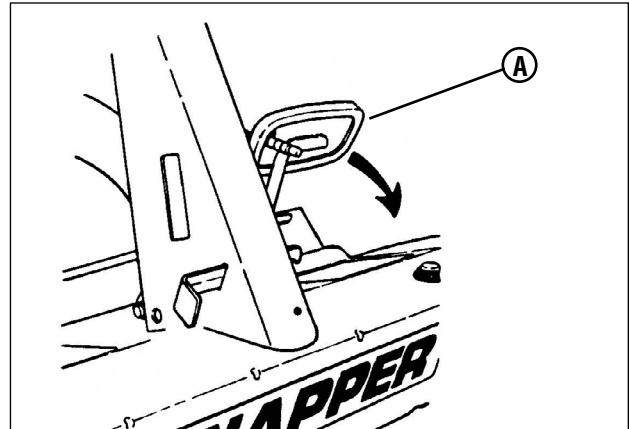

Figure 11: Engaging the clutch/brake pedal
2. Depress the clutch/brake pedal (A, Figure 11).